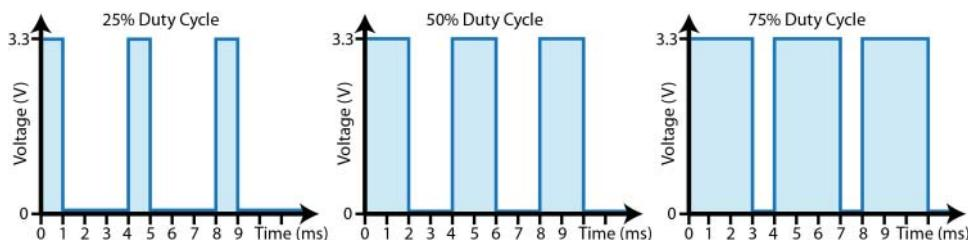

Figure 4-10: Duty cycles of pulse width modulation (PWM) signals
Figure 4-10 illustrates a PWM square wave signal at different duty cycles. The duty cycle is the percentage of time that the signal is high versus the time that the signal is low. In this example, a high is represented by a voltage of 3.3 V and
The period (T) of a repeating signal (a periodic signal) is the time it takes to complete a full cycle. In the example in Figure 4-10, the period of the signal in all three cases is 4 ms. The frequency (f) of a periodic signal describes how often a signal goes through a full cycle in a given time period. Therefore, for a signal with a period of 4 ms, it will cycle 250 times per second ($1/0.004$), which is 250 hertz (Hz). We can state that f (Hz) = $1/T$ (s) or T (s) = $1/f$ (Hz). Some high-end DMMs measure frequency, but generally you use an oscilloscope to measure frequency. PWM signals need to switch at a frequency to suit the device to be controlled; typically, the frequency is in the kHz range for motor control.